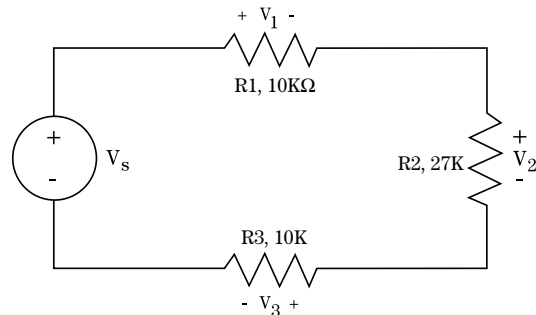
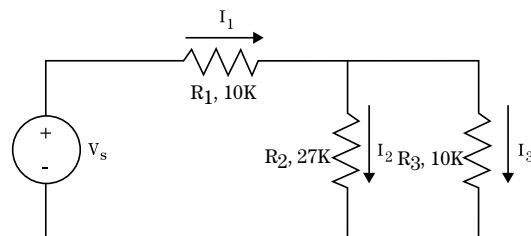

Figure 1
Figure 2
In your journal, find the voltages  $V_1$ ,  $V_2$  and  $V_3$  in the circuit of Fig. 1, and the currents  $I_1$ ,  $I_2$  and  $I_3$  in the circuit of Fig. 2.
Use a CCA (computer-aided circuit analysis) program to analyze the circuit of Fig. 1 and Fig. 2, using DC analysis. Plot the voltage across all three resistors, as the input voltage is swept from 0 to 5  $V_{DC}$ . Print out the circuit, analysis parameters and the graph of the results. Tape the printout(s) into your lab journal.
Measure and record the actual resistance of each resistor that will be used in constructing the circuits of Fig. 1 and Fig. 2. Label the two 10-k $\Omega$  resistors with their values so that you can keep track of their final locations in the circuits. Measure and record the output voltage of the power supply,  $V_s$ .
Use the measured values for the resistors and  $V_s$  to compute the expected values for the voltages  $V_1$ ,  $V_2$  and  $V_3$ . Enter these results in the column “Actual calc'd volts.” In your lab journal draw a schematic diagram similar to Fig. 1, except label the elements with the measured resistance and computed voltage.
- Ensure that the power supply is off. On a protoboard, construct the circuit of Fig. 1. Turn on the power supply and measure the voltages  $V_1$ ,  $V_2$ , and  $V_3$ . Record these values in the data table.
Create a table in your journal similar to the one used for the circuit of Fig. 1, but which is modified to record the amperage data for the circuit of Fig. 2. Compute the currents  $I_1$ ,  $I_2$ , and  $I_3$ , and record them in your table. With the power off, construct the circuit of Fig. 2. Use the ammeter to measure  $I_1$ ,  $I_2$  and  $I_3$ . Always turn off the power before making changes in your circuit (such as moving the ammeter to measure current through a different resistor). Record these measured values in your table.